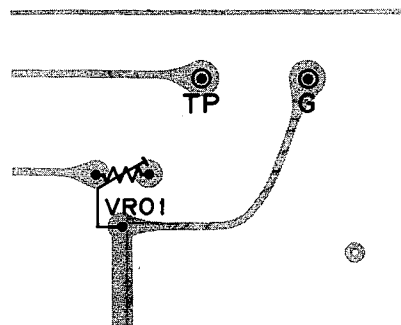

Fig. 9
2. Connect the oscilloscope to TP . (Fig. 9)